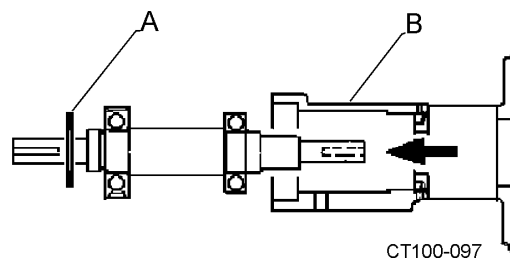

Figure 27 - Bearing Shaft Assembly Removal
11. Push the shaft and bearing assembly out of the housing from the impeller end. (Figure 27).
12. Remove the retaining ring and press the bearings off the shaft. (Figure 27, items A and B).